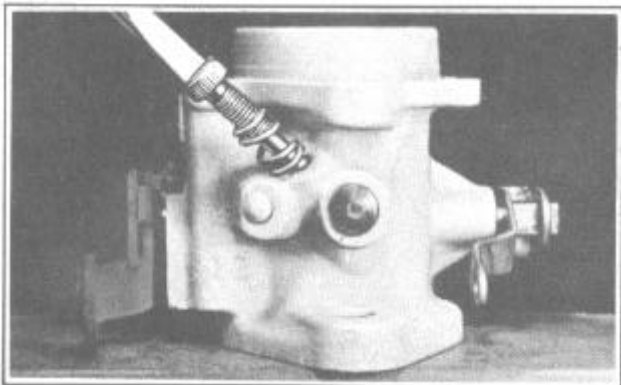

FIGURE 26
12. Remove idle adjustment screw and spring, Figure 26. Check for groove on seating surface.